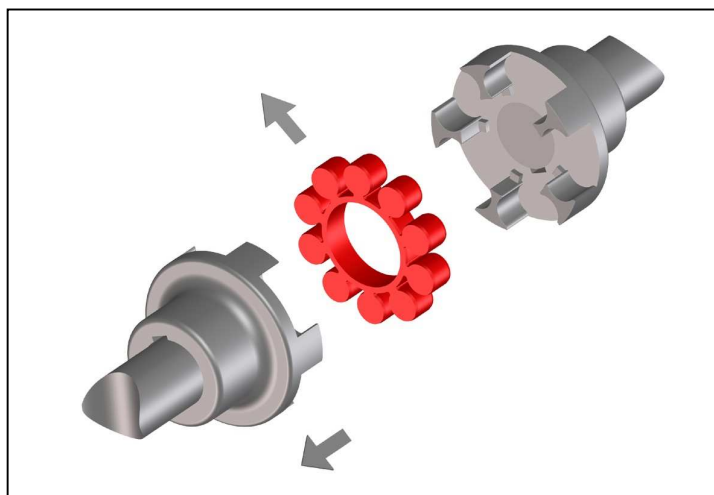

Fig. 10
- Draw back one coupling half (Fig. 10).